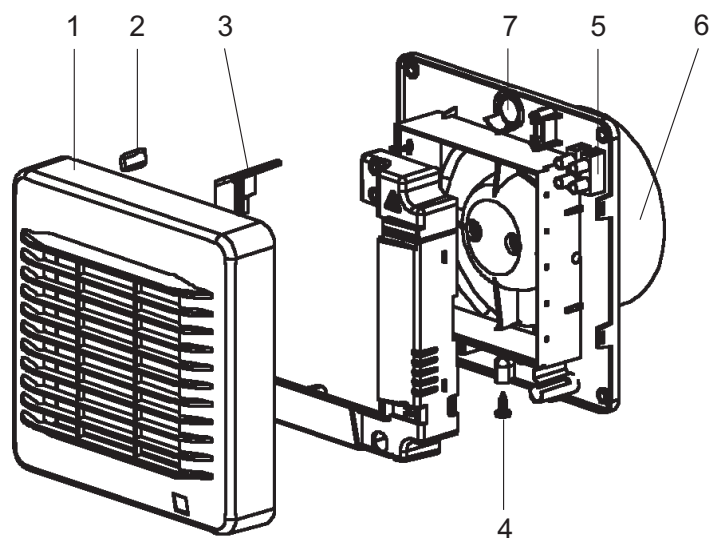
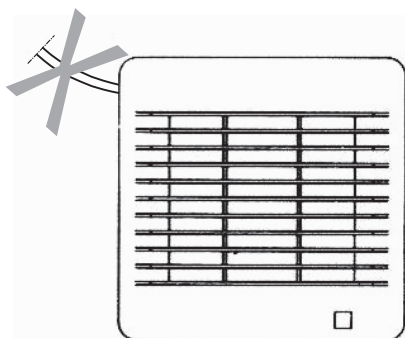

Fig.1
Fig.3
- Fig.1
- There are two options for cable entry to the fan. If using recessed wiring, the cable must be introduced through the slot (7) (Fig. 1). If using surface wiring the cable must be introduced as shown in Fig 3 and the break-out region on the left hand side of the front grille should be removed.